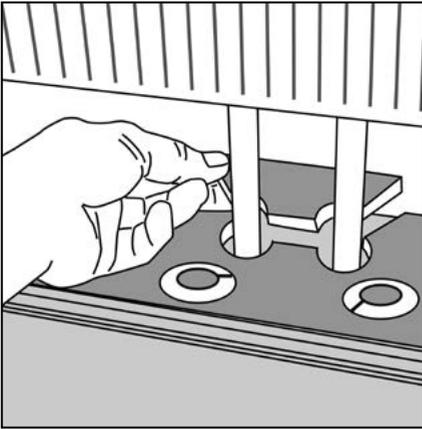

Figure 31 Radiator pipes
- ▶ Install the floor plank. If necessary, put a bead of contact adhesive on the cut piece and replace. Insert a spacer directly behind the inserted piece to wedge it in place ensuring that the correct sized expansion gap has been left. Leave this in place until the adhesive has hardened. (fig. 31 adjacent)